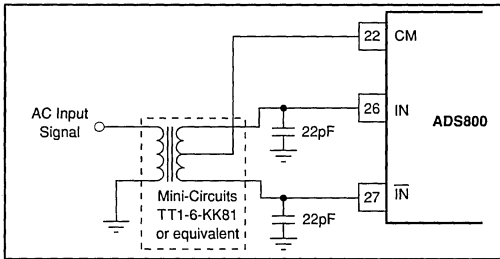

FIGURE 5. AC-Coupled Single-Ended to Differential Drive Circuit Using a Transformer.
output is created on the secondary if the center tap is tied to the common-mode voltage of +2.25V per Figure 5. This transformer-coupled input arrangement provides good high frequency AC performance. It is important to select a transformer that gives low distortion and does not exhibit core saturation at full scale voltage levels. Since the transformer does not appreciably load the ladder, there is no need to buffer the common-mode (CM) output in this instance. In general, it is advisable to keep the current draw from the CM output pin below 0.5μA to avoid nonlinearity in the internal reference ladder. A FET input operational amplifier such as the OPA130 can provide a buffered reference for driving external circuitry. The analog IN and IN inputs should be bypassed with 22pF capacitors to minimize track/hold glitches and to improve high input frequency performance.